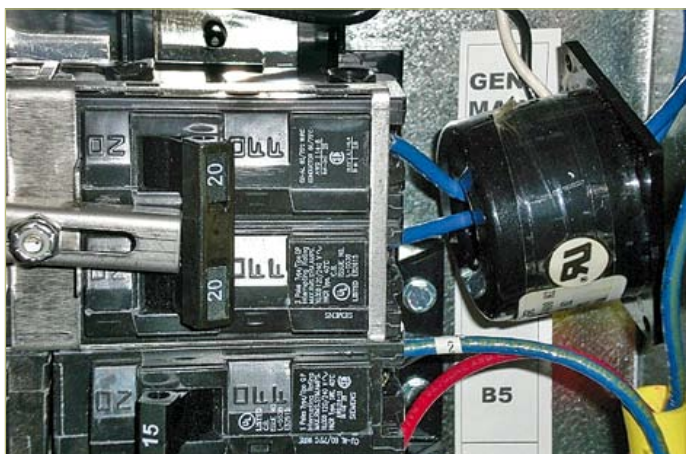

Figure 1. CT installation in the sub-panel.
We had a weather-proof single-phase 30 amp recreational vehicle (RV) outdoor connector installed to match the 30 amp twist-lock connector on the generator output panel and connect it to our house with a 15 foot (4.6 meter) 8-gauge (8 mm²) power cable. I purchased a 150:1 ratio current transformer (CT) on eBay that had the appropriate UL/CE qualifications (it is very important that the CT meets all applicable local codes). My electrician routed both blue wires that feed the eight circuit breakers in the sub-panel through the center of the CT in an additive manner (see Figure 1). This is the one-turn CT primary winding. The CT secondary winding divides the primary current by the turns ratio, in this case by 150. The CT is rated for 5 VA, so in theory it can produce a secondary voltage of about 31 V_{RMS} (200 Ω load) with the maximum 23.33 amp surge load rating of our generator without saturation. This is more than enough for our remote load meter.